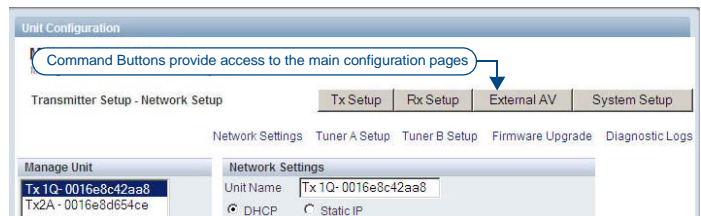

FIG. 6 Digital TV Configuration Manager
3. Press **OK** to proceed to the Digital TV Configuration Manager. The initial view is of the *Transmitter Setup* page (FIG. 6).